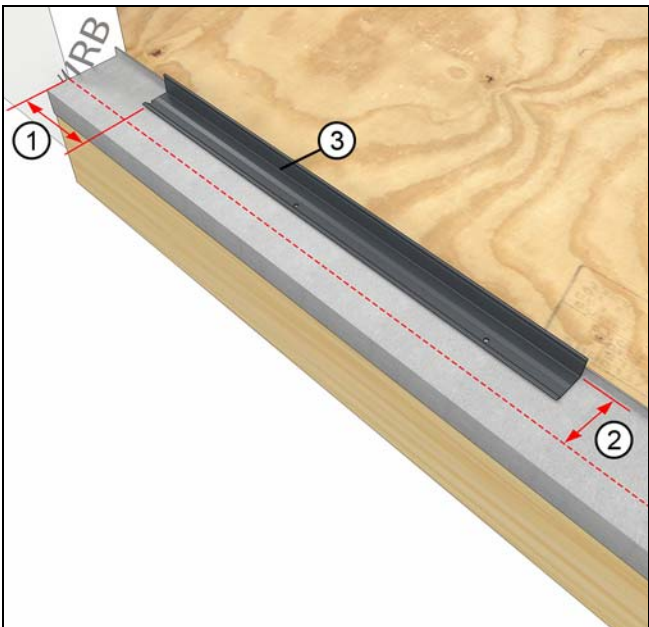

Figure 177
1. For configurations where the first unit you install in an opening is a door, measure 5 3/16" away from the rough opening and install the sill support 3 5/16" from the exterior sheathing line. See Figure 177.